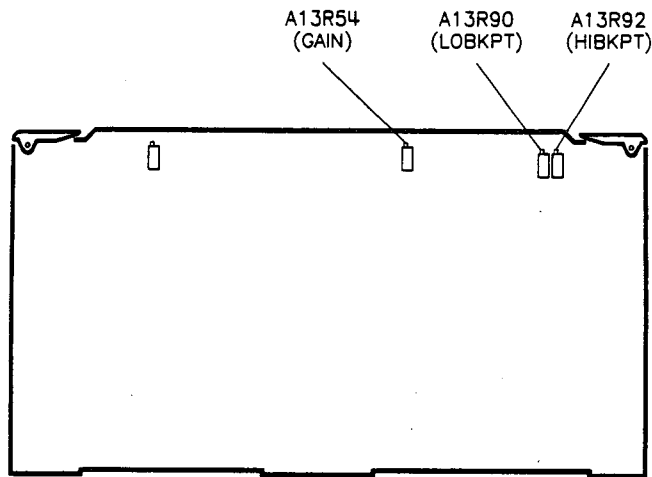

Figure 3-13. YO Gain and Linearity Adjustment Locations
4. Adjust A13R54 (see figure 3-13) to center the "needle" on the display.
6. Adjust A13R90 (see figure 3-13) to center the "needle" on the display.
9. Adjust A13R92 (see figure 3-13) to center the "needle" on the display.